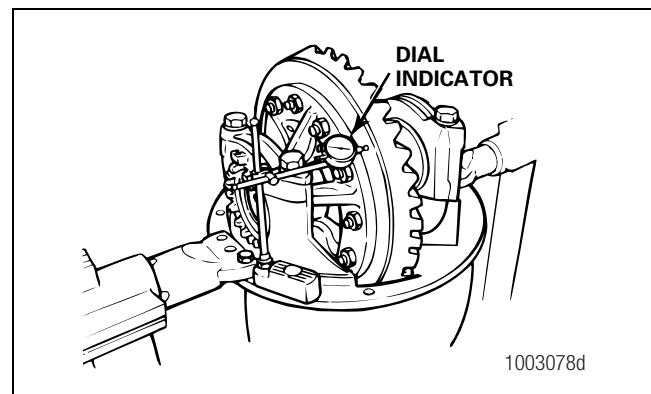

Figure 5.53
1. Attach a dial indicator onto the carrier mounting flange so that the plunger or pointer is against the ring gear back surface. Figure 5.53.